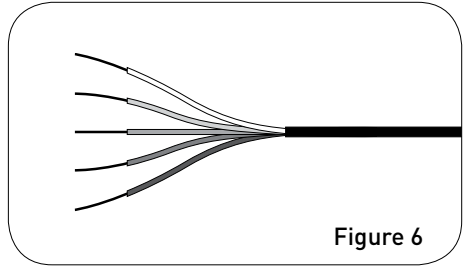

Figure 6
4. Remove 7/8”–1” of insulation from each individual wire (*Figure 6*)